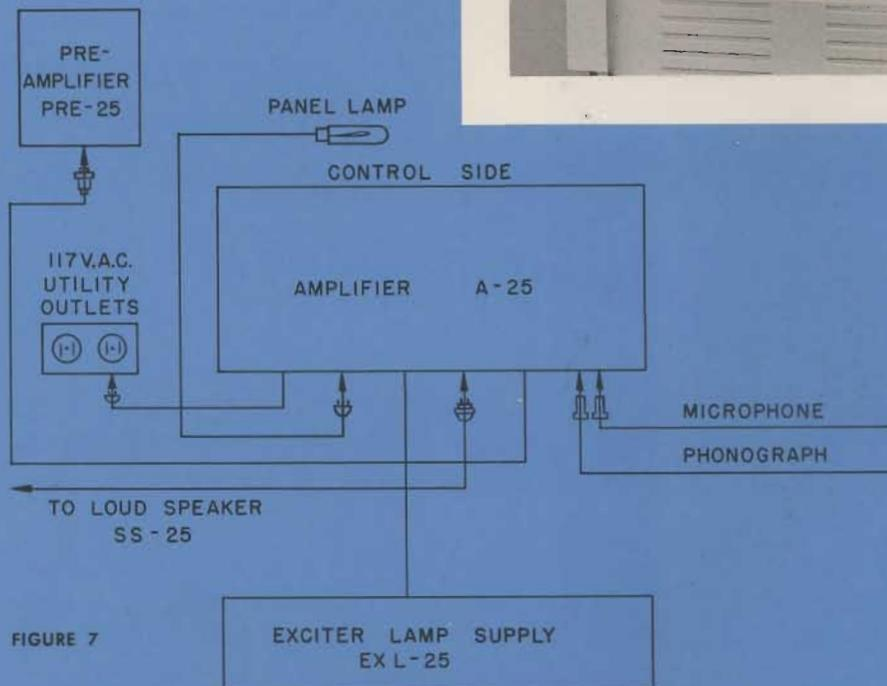

FIGURE 7
4. Connect the amplifier as shown in figure 7.
Locate the speaker unit in a convenient position as close as possible to the screen. Run the speaker cord through the opening in the front of the pedestal and connect the cord to the amplifier as shown in figure 7. For permanent installations, see figures 1, 2, and 3.